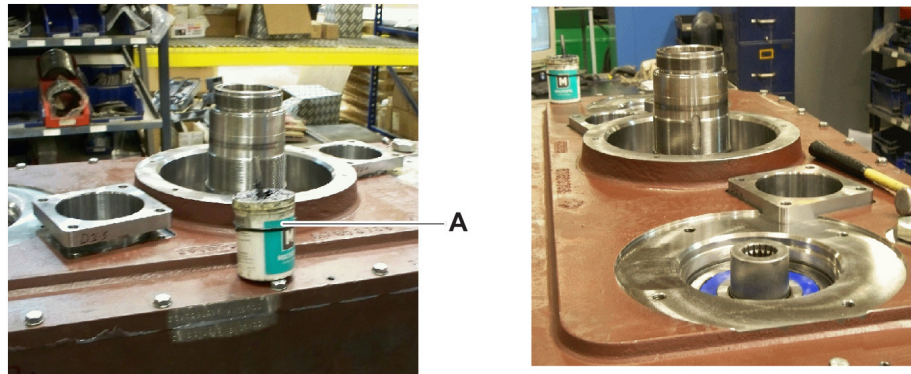

Figure 12
20. Apply a thin layer of Ronex-HD grease (Figure 12, item A) to the upper intermediate bearing rollers and to the inside surfaces of the intermediate bearing cavities. Also apply to the outside and the inside diameters of the bearing holder.